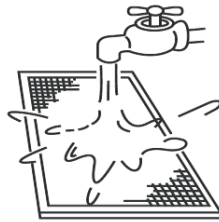

Figure 13.3
- **b.** The air intake side should face down when using clean water. (Refer to Figure 13.3)